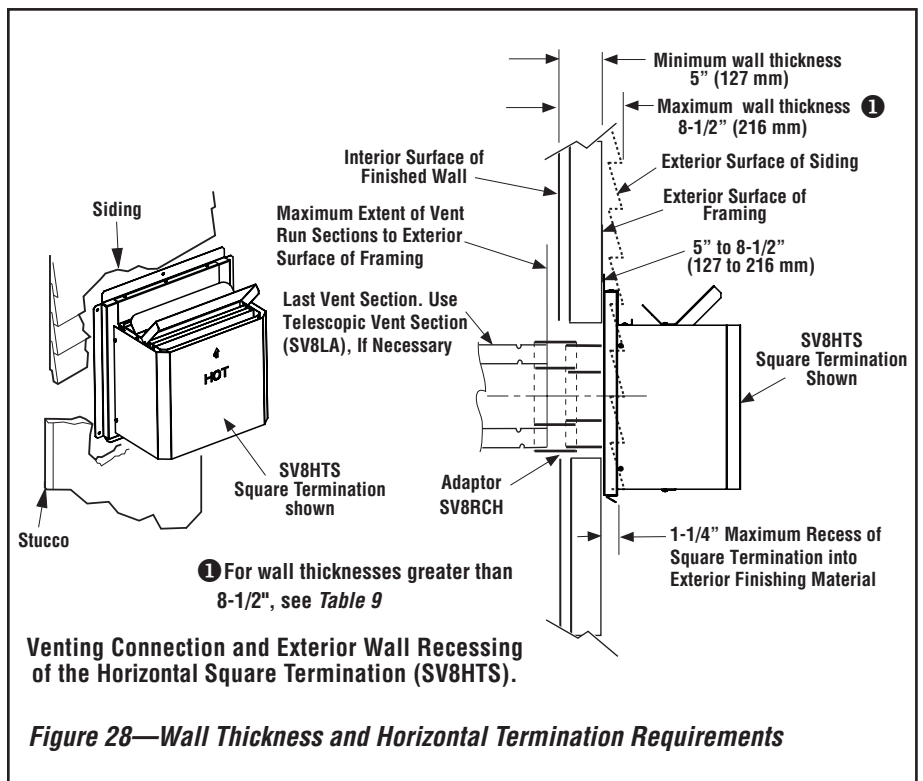

Figure 28—Wall Thickness and Horizontal Termination Requirements
If the terminus of the last section is not within this distance, use the **telescopic vent section SV8LA**, as the last vent section. For wall thicknesses greater than that shown in **Figure 28**, refer to **Table 9 on Page 21**. This table lists the additional venting components needed (in addition to the termination and adaptor) for a particular range of wall thicknesses.
M. Install the square termination (SV8HTS)—For the last step, from outside the exterior wall, slide the collars of the termination onto the adaptor (the outer over the outer and the inner inside the inner) until the termination seats against the exterior wall surface to which it will be attached. Orient the housing of the termination with the arrow pointed upwards. Secure the termination to the exterior wall. **The horizontal termination must not be recessed into the exterior wall or siding by more than the 1-1/4" (32 mm) as shown in Figure 28.**
Venting Components Required for Various Exterior Wall Thicknesses, when using Square Termination Kit (SV8HTS—see Figure 28)